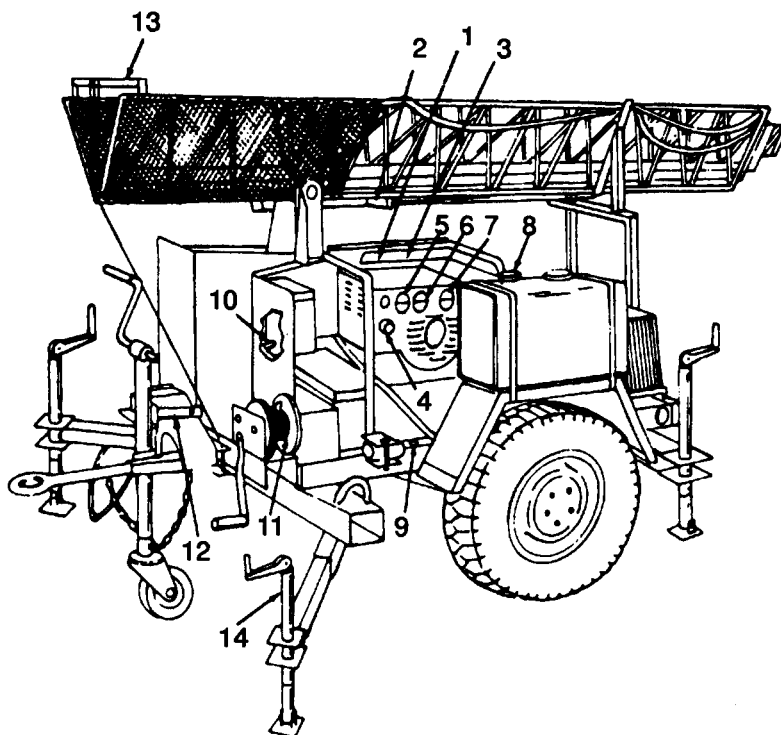

Figure 2-1. Operator Controls and Indicators.
a. The instructions in this section are for the information and guidance of personnel responsible for the operation of the Floodlight Set. See Figure 2-1 for descriptions of the operator's controls and indicators.
Figure 2-1 includes operator controls and indicators illustrated and described.